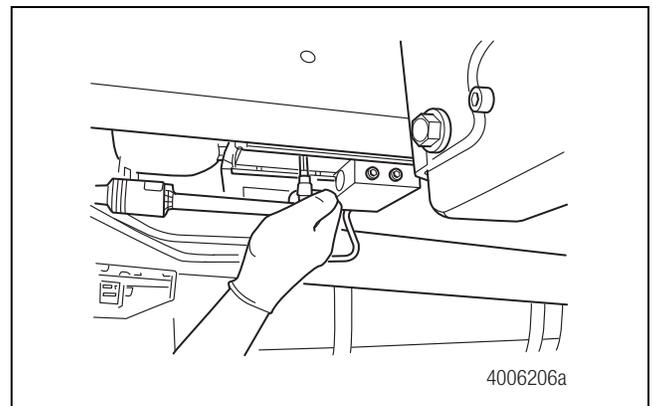

Figure 4.35
2. Insert the pump retaining plug into the threaded hole. Use a 6 mm hex-head socket wrench to tighten the plug to  $195 \pm 18$  in-lb ( $22 \pm 2$  N•m). Figure 4.35.